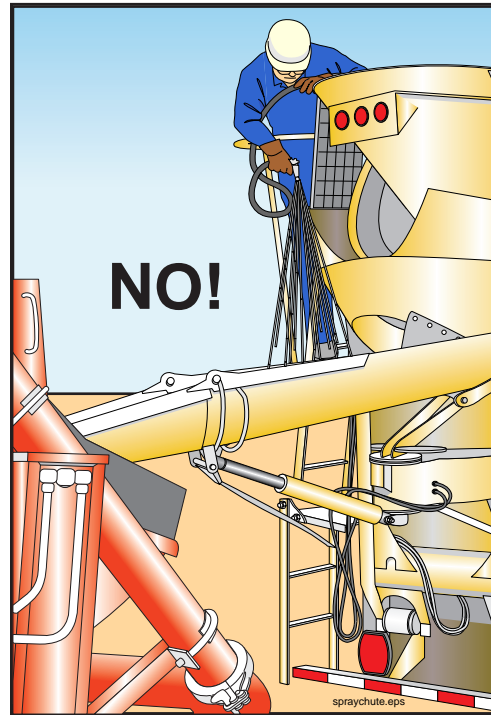

Figure 14
5.1 ⚠️ WARNING! Plugging hazard. Do not wash out the mixer truck into the pump hopper. Water washes the cement and fine aggregate out of the mix, leaving a coarse mixture that cannot be pumped (called segregation) See Figure 14.